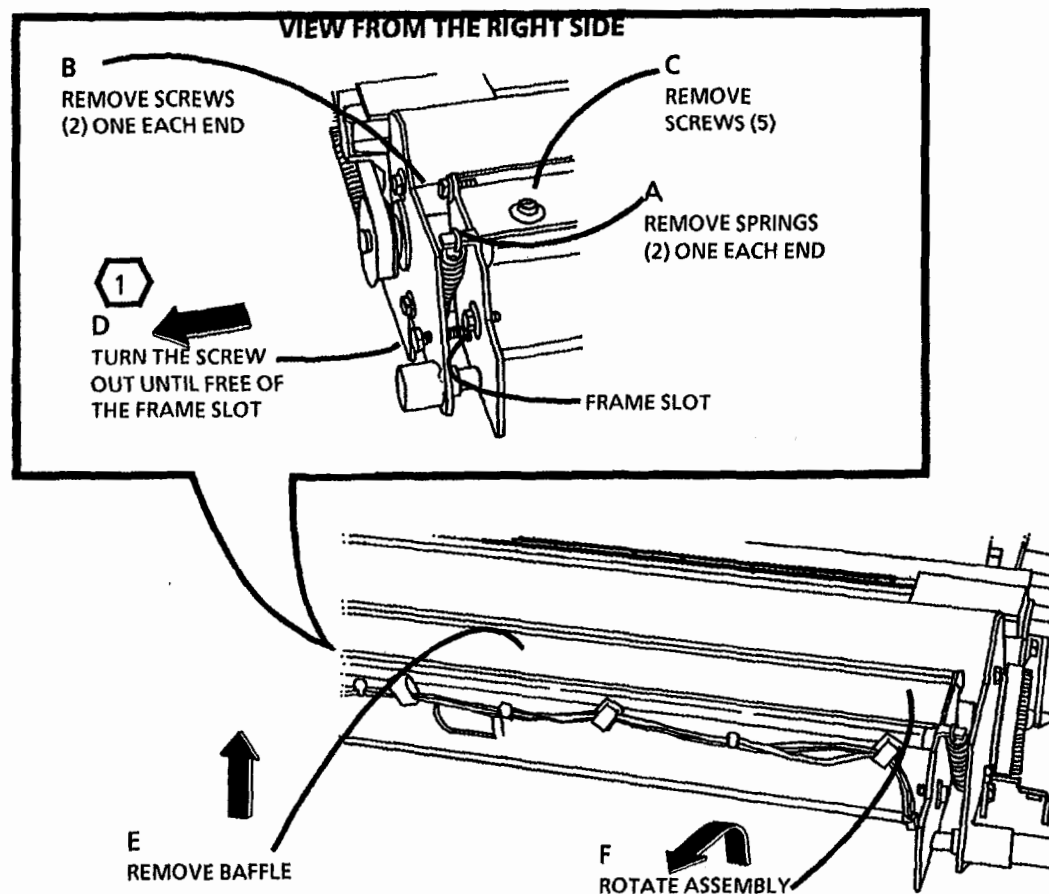

Figure 1. Prepare to Remove the Registration Pinch Rolls
5. (Figure 1): Prepare to remove the Registration Pinch Rolls.